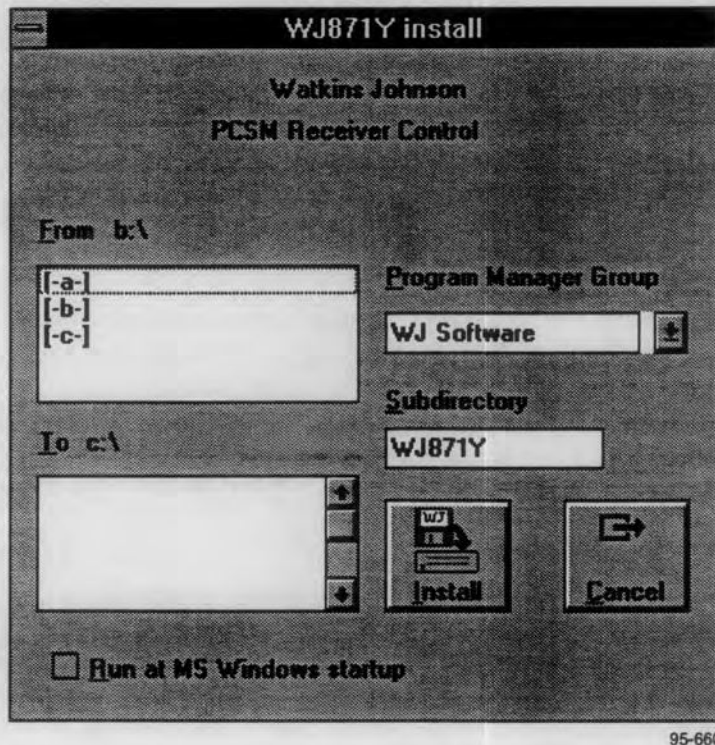

Figure G-5. WJ-871Y/PCSM Install Screen
5. Type a:install (or b:install, if the disk is in drive b:). The WJ-871Y/PCSM Install screen should appear on the desktop (refer to **Figure G-5**).